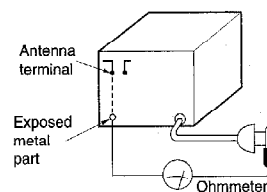
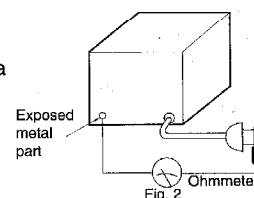

Fig. 1
Fig. 2
- Measure the resistance value with ohmmeter between the jumper AC plug and each exposed metal cabinet part ,such as screwheads ,antenna ,control shafts ,handle brackets , etc . Equipment with antenna terminals should read between 3MΩ and 5.2MΩ to all exposed parts* .(Fig. 1) Equipment without antenna terminals should read approximately infinity to all exposed parts . (Fig. 2)